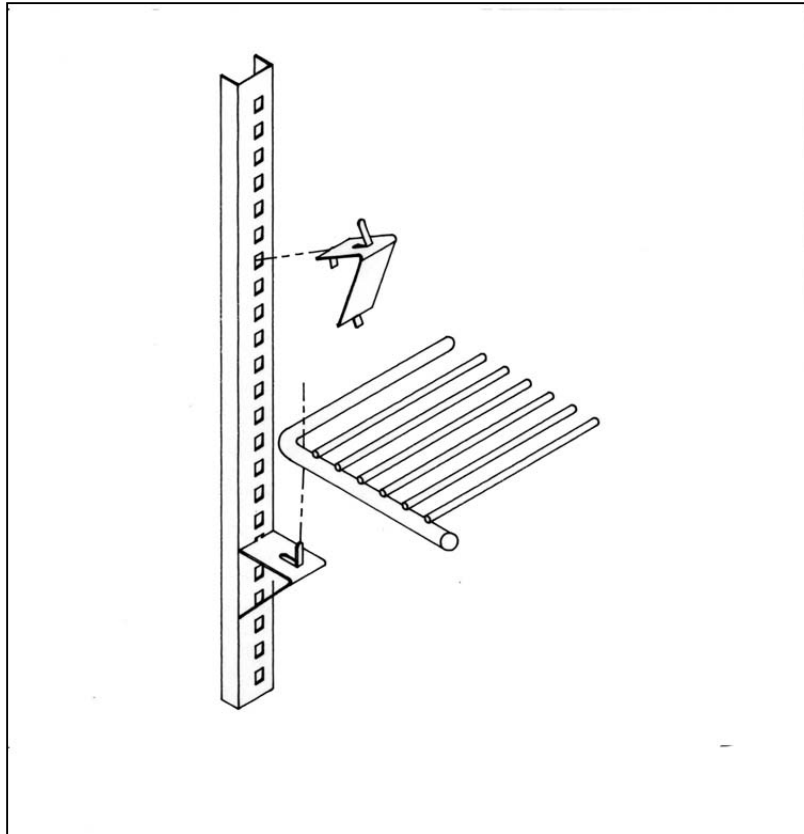
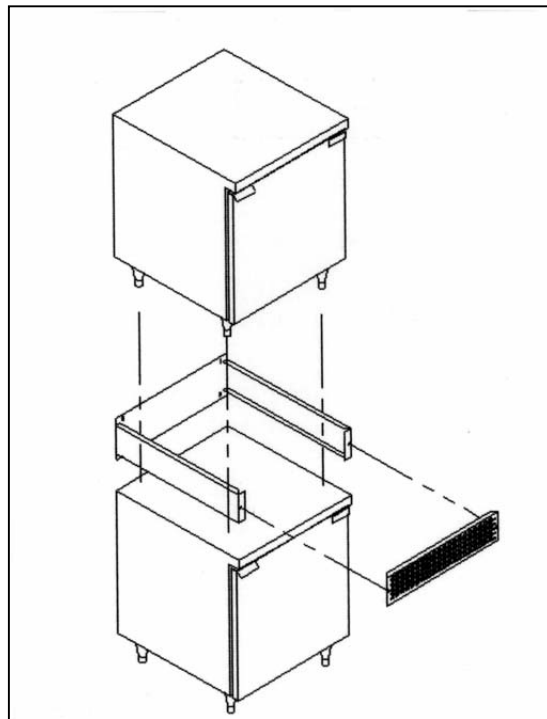

FIGURE 9
FIGURE 10
In addition to the optional heavy-duty pilaster and clip as shown in figure 9, all models are available with an overhead or double-overhead shelf. Models can even be stacked with a heavy duty stacking collar adapter kit as shown in figure 10. **Please consult the price list for additional interior and exterior options and accessories available from the factory for your model.**
All SW27, SWF27, SW48, SWF48 solid top models can be stacked one on top of the other with the use of a heavy duty, stainless steel stacking collar as shown in figure 10. When stacking a refrigerator and freezer, it is always best to place the freezer model on the bottom for maximum efficiency. The front grill which is attached to the stacking collar body is attached with easily removable thumbscrews and should be removed periodically for cleaning. The front grill should always be clean and clear of debris and **never** blocked.
4. Install stacking collar as shown in figure 10, making sure all rear screw hole slots line up on both top and bottom models where screws were removed from in step #2. If screw hole slots do not line up (left to right) with screw holes then the stacking collar has been mounted upside down. Remove and re-install correctly.